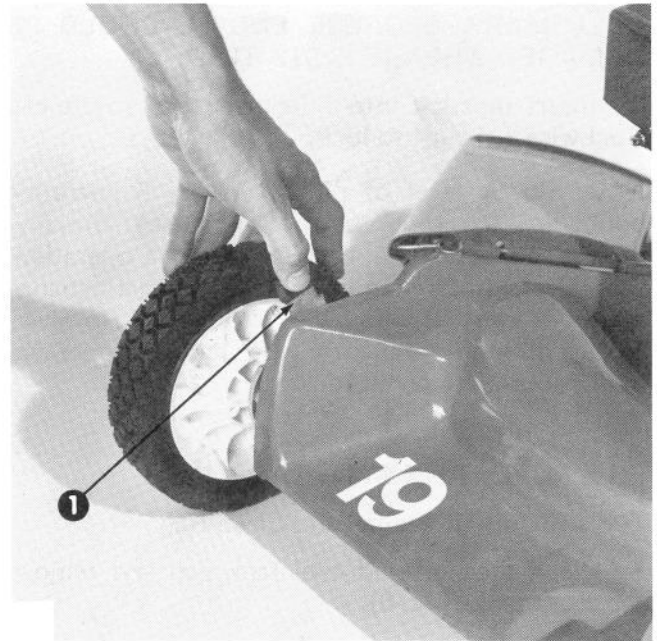

Figure 4
6. Set all wheels in 2 inch (51 mm), mid position (Fig. 4): refer to Adjust Height-of-Cut, page 8. Step behind handle and check its height. If higher or lower handle height is desired, position pins into one of the other holes in the latches.